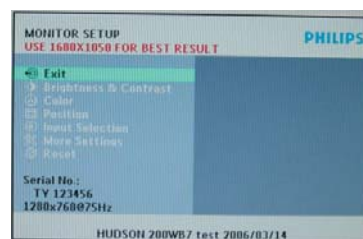

Fig.30
- Re-confirm the serial Number is updated as shown in Fig.30.